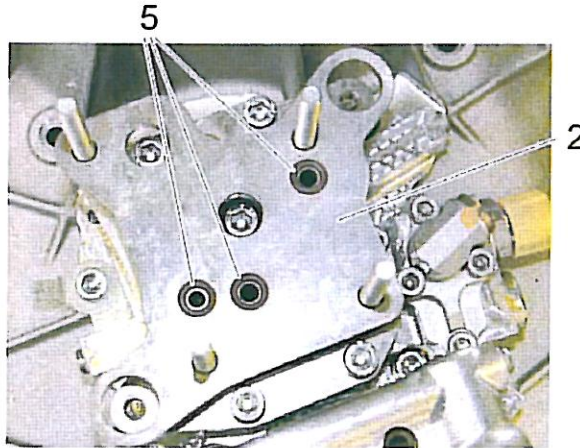

Figure 15
11. Fit one O-ring (item 5) to each of the three designated place at the vibration isolator (item 2). See Figure 15.